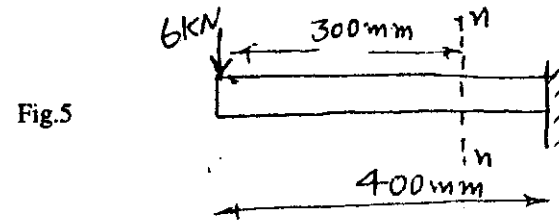

Fig.5
- b) A machine part a T-shaped cross section is acted upon its plane of symmetry by the single force shown in Fig.5. Determine a) the maximum compressive stress at section n-n b) the maximum shearing stress. (12)